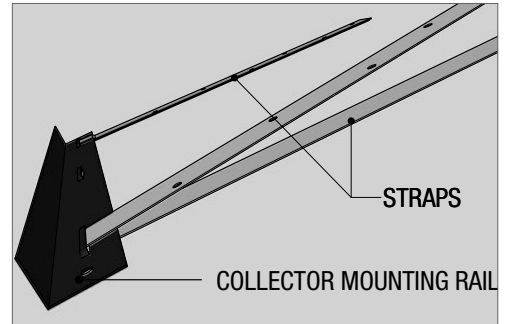

Fig 1
#### To Tiled Roofs (Fig 1 & 2)
- a. Fold stainless steel bottom straps in half feed through the eyelets on the black collector rail with suitable spacing (Fig 1).
*NOTE: If a batten is not in a suitable position use the straps provided and feed through collector mounting rail (Fig 1) and fasten straps to a suitable roof batten through the roof sheeting.*